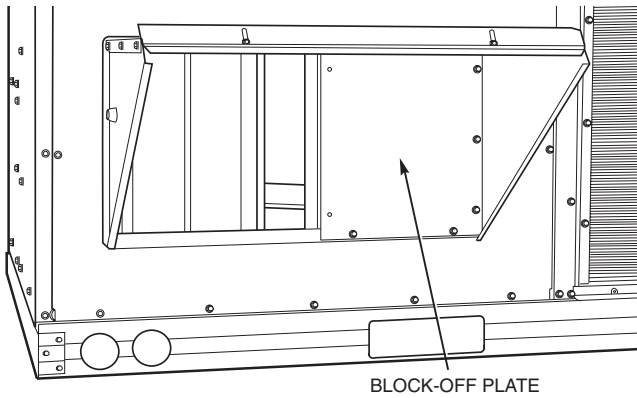

Fig. 13 — Horizontal Discharge Block-Off Plate
- c. Install horizontal discharge block-off plate over the opening on the access panel. (Block-off plate **MUST** be installed before installing hood assembly.) See Fig. 13.